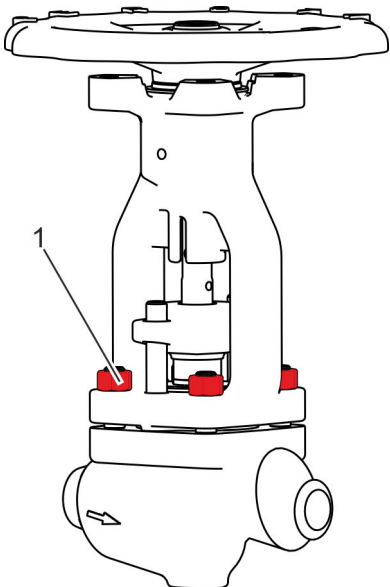

Fig. 47: Screw fastening the bonnet
- 31.** ▶ Loosely screw together the bonnet and nuts (Fig. 47/1) onto the stud bolts in the body.